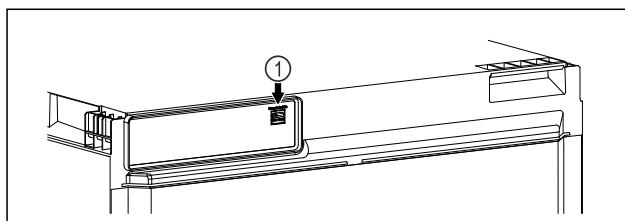

Fig. 19
- SmartModule Fig. 19 (1) has been inserted.